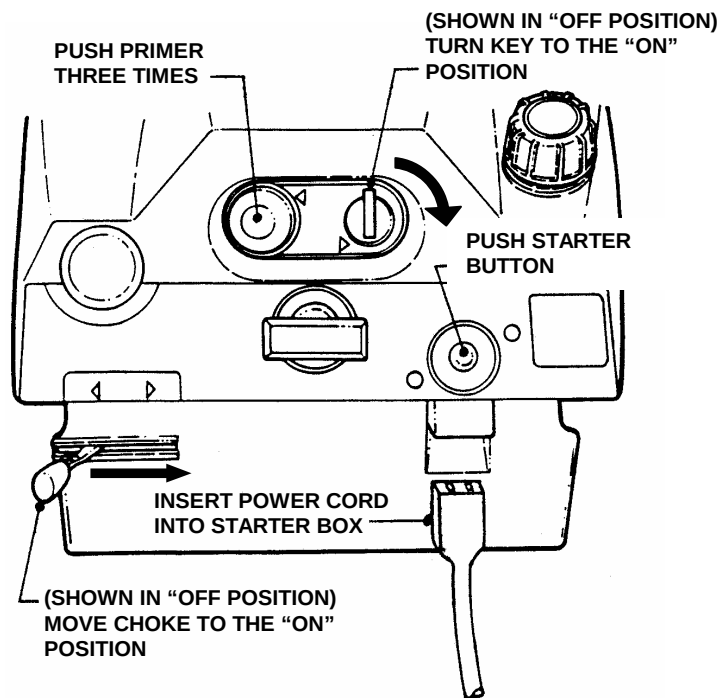

FIGURE 3.8
3. Move choke control to the choke "ON" position. See Figure 3.8.
5. Push the electric starter button. DO NOT hold button for more than 20 seconds to avoid damaging the starting motor. See Figure 3.8.